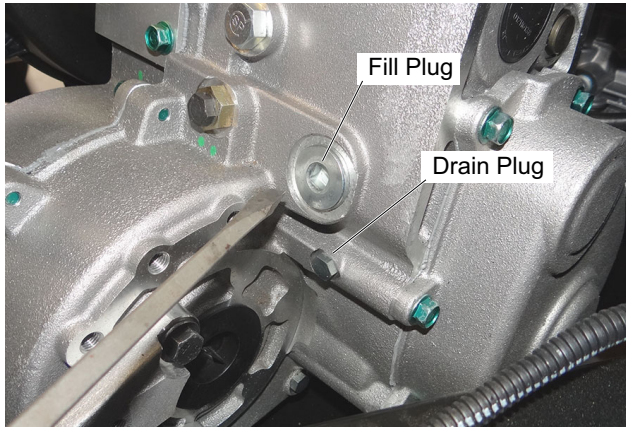

Fig. 12 Fill and Drain Plugs
8. Remove the nuts (20) and bolts (7) that secure each side of the upper control arm (1) to the vehicle frame (Ref. Fig. 12).